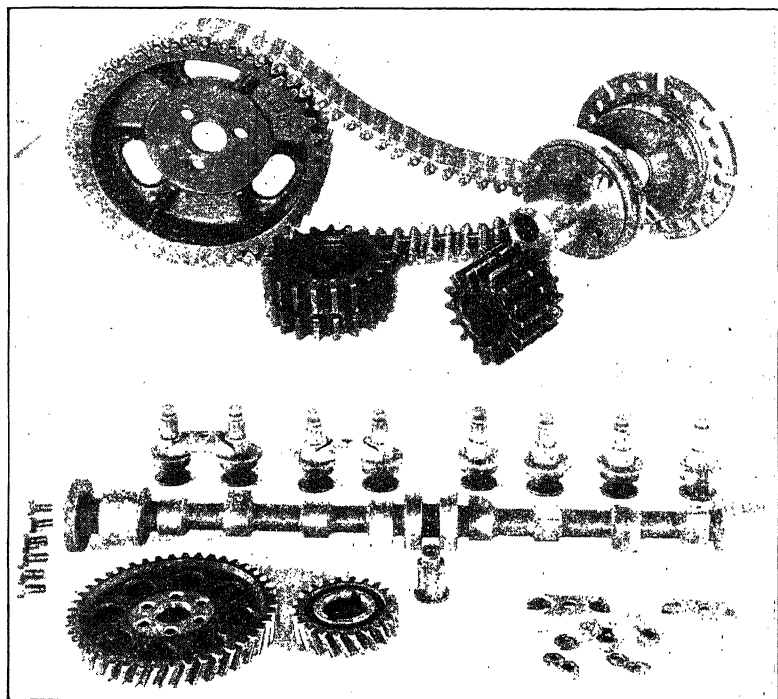

Fig. 16. Timing Gears or Chains, Camshafts, and Valve Lifters Are a Common Source of Disturbing Noises
**Camshaft.** It is very rare indeed that a camshaft needs to be replaced or that camshaft bearings cause trouble. Occasionally the play within the camshaft bearing will cause a slight knocking, but this is very unusual. It is more likely the knock from a camshaft will come from end play, which is usually adjustable. Noises are frequently attributed to camshafts, which are really in the cam gears. The old Ford Model T camshaft used a split camshaft bearing and these were replaced when rebuilding. The amount of bearing surface in these bearings is much smaller than ordinary, which accounts for the need of replacing. It is a good plan, however, to inspect the cams to learn whether they have become worn, Fig. 16. In a few cases where the factory has failed to properly heat-treat the cams, it will be found that the roller type of valve lifter has worn a track into the cam itself. The only remedy in such cases is to replace the entire camshaft, which is a one-piece forging. Slight scratches on a cam, which might be caused by a stuck cam follower of the mushroom type, may be polished out by means of an emery cloth or very fine oilstone.